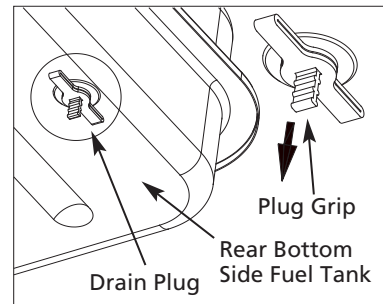

Figure 8 – Drain Plug Removal
- Remove drain plug from rear bottom side of fuel tank by pulling plug grip downward and drain. See Figure 8.